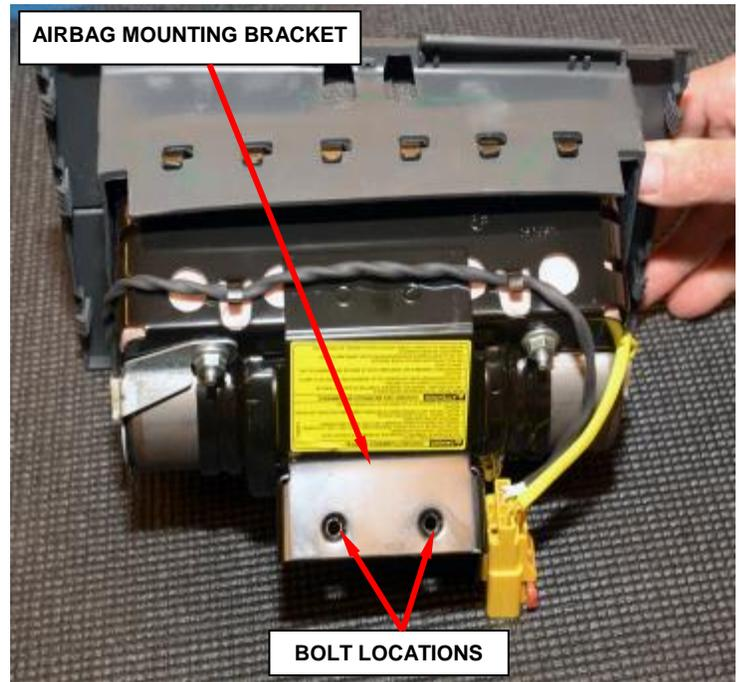
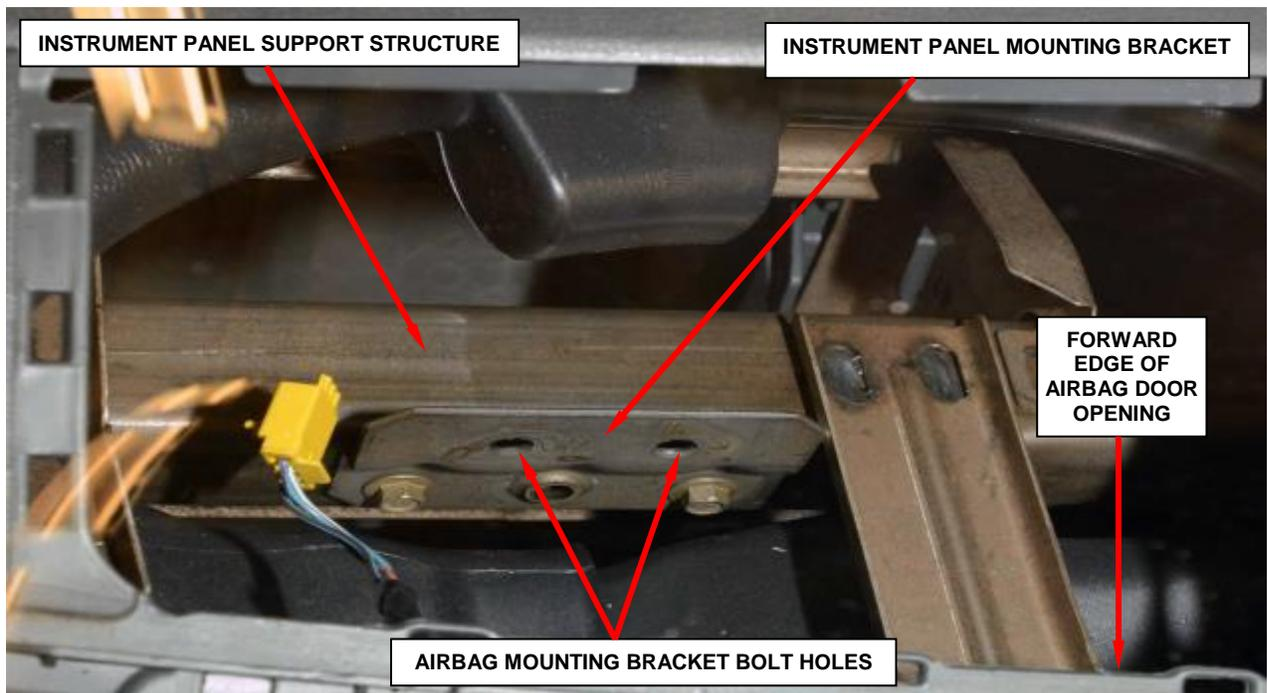

Figure 49 – Passenger Airbag Mounting Bracket
Figure 50 – Instrument Panel Mounting Bracket Viewed through Windshield and Airbag Door Opening
3. Reach up into the instrument panel glove box opening and through the access holes to remove and save the two bolts that secure the passenger airbag bracket to the instrument panel support structure (Figure 49) (Figure 50).
11. Reach into the glove box opening to install and tighten the two bolts that secure the passenger airbag mounting bracket to the instrument panel support structure through the access holes. Tighten the screws to 55 in. lbs. (6 N·m) (Figure 59) (Figure 50).